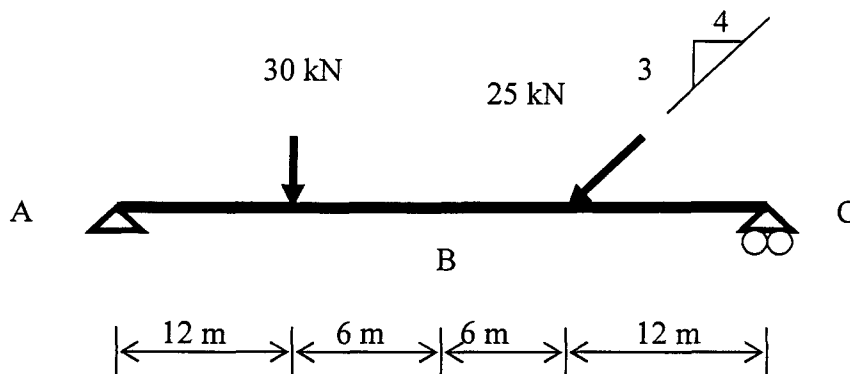

Figure 6.0/Rajah 6.0
- (c) Determine the normal force, shear and bending moment at point B of the beam shown in **Figure 6.0**.